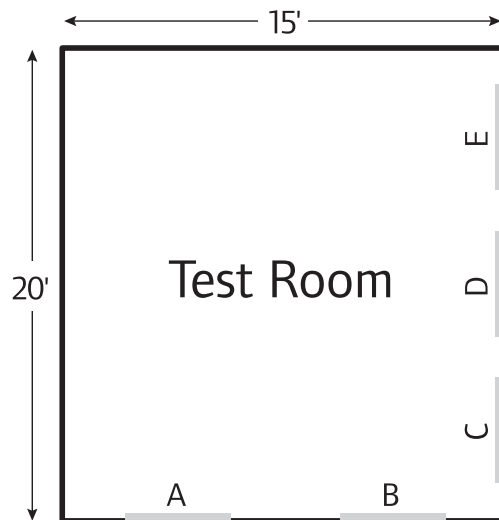

Figure 7-2: Test Room
- Calculation Area:** This value represents the area to be analyzed. This example uses the room shown in **Figure 7-2**.